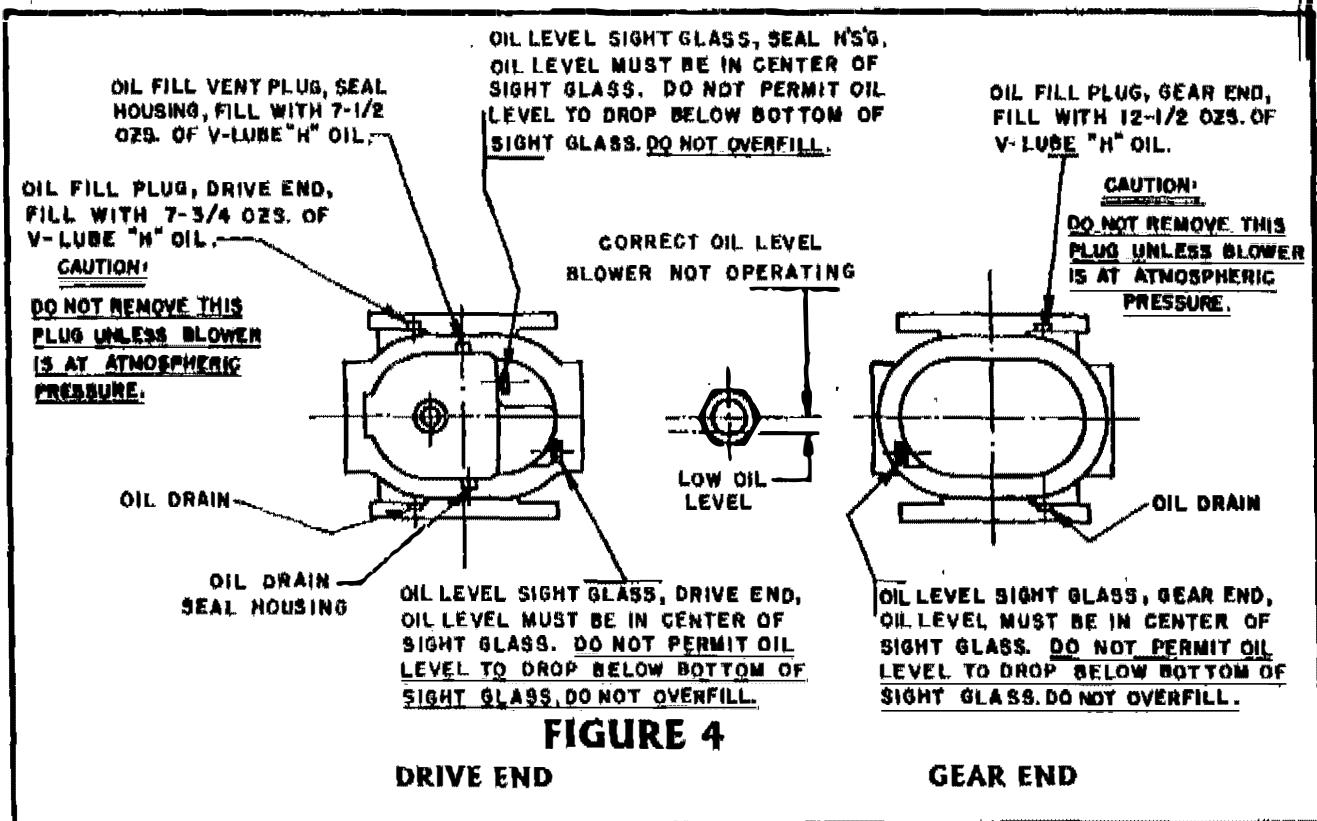

FIGURE 4
2.6 LUBRICATION (See Figs. 4 and 5)